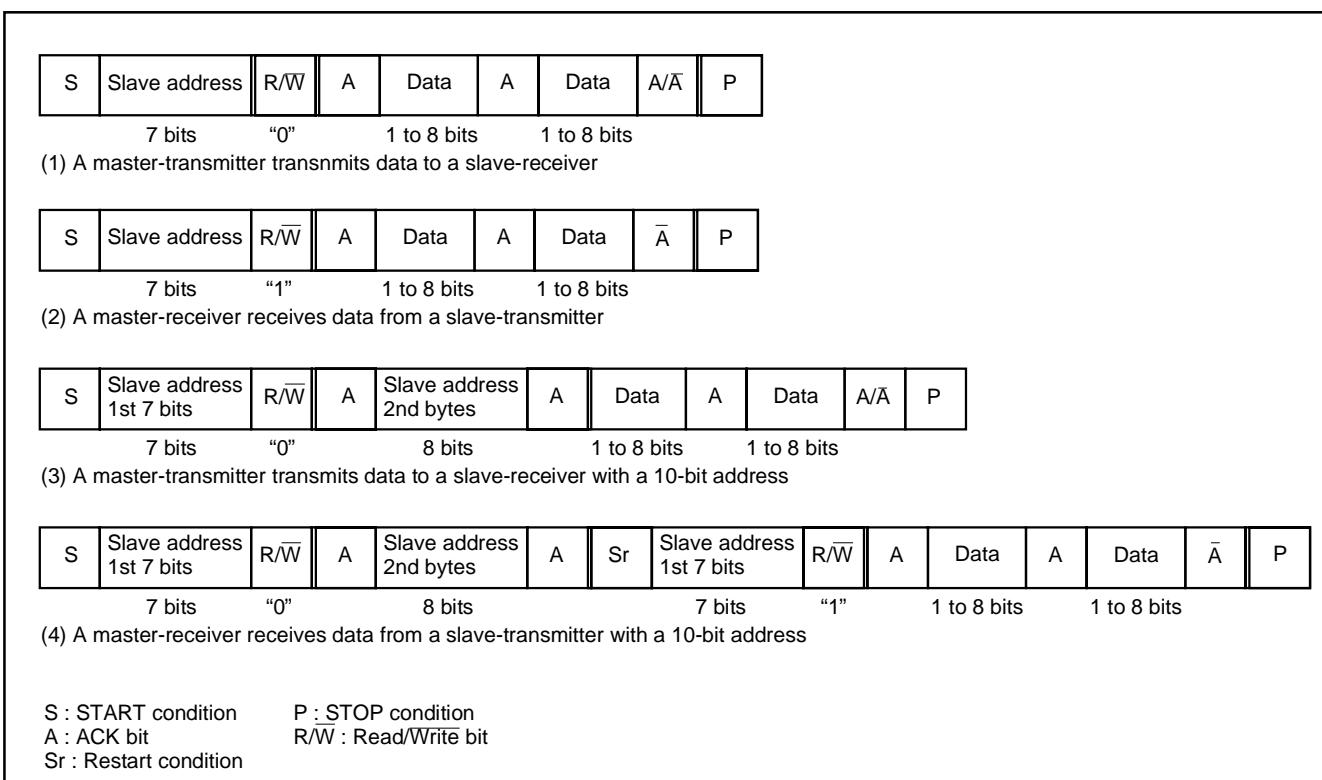

Fig. 42 Address data communication format
To adapt the 7-bit addressing format, set the 10BIT SAD bit of the I2C control register (S1D) to "0". The first 7-bit address data transmitted from the master is compared with the high-order 7-bit slave address stored in the I2C address register (S0D). At the time of this comparison, address comparison of the RWB bit of the I2C address register (S0D) is not performed. For the data transmission format when the 7-bit addressing format is selected, refer to Figure 42, (1) and (2).
When the first-byte address data agree with the slave address, the AAS bit of the I2C status register (S1) is set to "1". After the second-byte address data is stored into the I2C data shift register (S0), perform an address comparison between the second-byte data and the slave address by software. When the address data of the 2 bytes agree with the slave address, set the RWB bit of the I2C address register (S0D) to "1" by software. This processing can make the 7-bit slave address and R/W data agree, which are received after a RESTART condition is detected, with the value of the I2C address register (S0D). For the data transmission format when the 10-bit addressing format is selected, refer to Figure 42, (3) and (4).